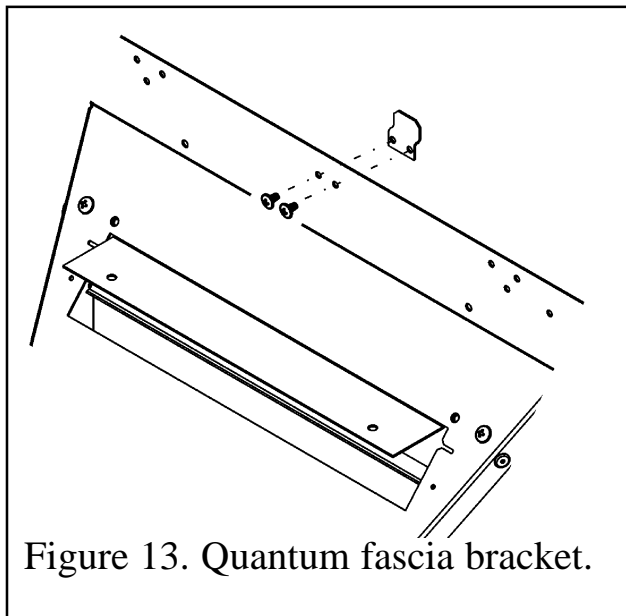

Figure 13. Quantum fascia bracket.
1. Supplied in the loose parts pack is a fascia hanging bracket 'E'. Fit this to the top of the hotbox using two of the 'A' screws supplied. (See figure 13).